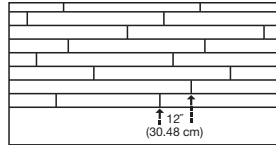

Figure 15
- Check for a tight fit between all edges and ends of each plank. End-joints of adjacent rows should be staggered a minimum of 12" (30.48 cm) when possible, to ensure a more favorable overall appearance (Figure 15).